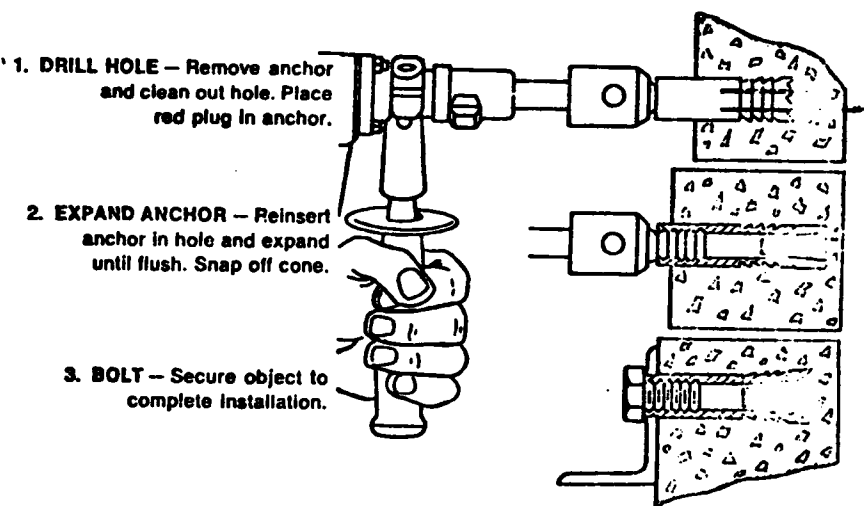

FIG. 3 INSTALLING SELF-DRILLING ANCHORS
4.21 Operator instructions for the installation of self-drilling anchors with the R-4416 Roto-Stop Hammer (Figure 3):